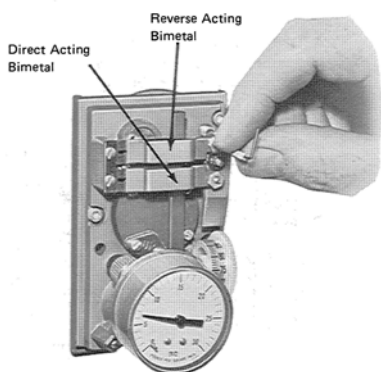

Figure-6
5. With a 0.48-inch six spline wrench, turn the calibration screw (Figure-6) clockwise if the controlled pressure is above 8 psig (55.1 kPa) and counterclockwise if it below 8 psig (55.1 kPa). Adjust the screw until the controlled pressure is  $8 \pm 1$  psi (55.1  $\pm$ 1 kPa).